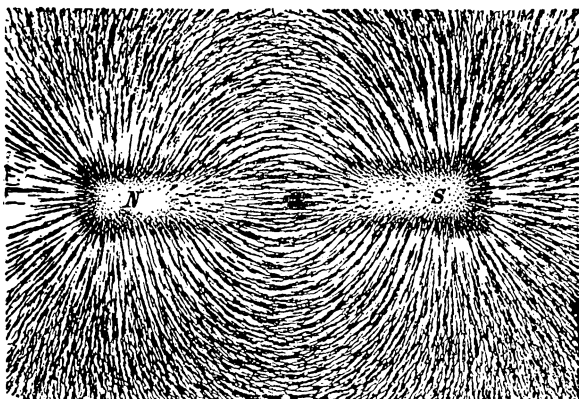
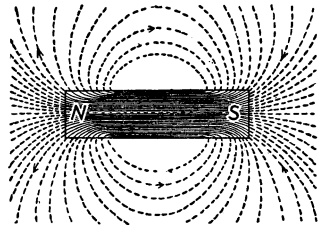
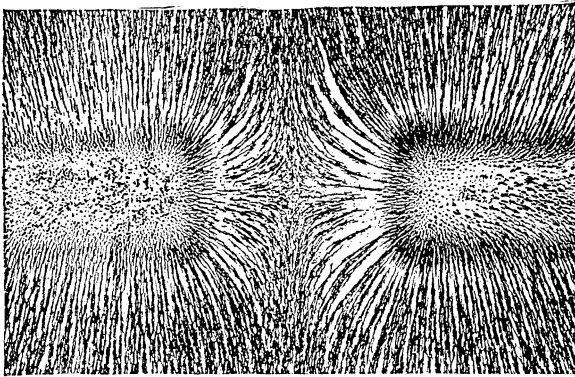

FIG. 179.—Iron filings on paper over a bar magnet.
FIG. 180.—Diagram of the field of a bar magnet.
FIG. 181.—Magnetic field between like poles showing repulsion.
curved lines extending from one end of the magnet to the other. These are called the *magnetic lines of force*. (See Fig. 179.) The space about a magnet in which the magnetic lines are found is called the *magnetic field*. (See Fig. 180.)
(B) Magnetic lines of force are believed to form "*closed curves*" or to be continuous. The part outside of the magnet is a continuation of the part within the magnet. (See Fig. 180.)
physicists to indicate by an arrow head (Fig. 180), the direction that a north-seeking pole tends to move along a line of force. The lines of force are considered as leaving the north-seeking pole of a magnet and entering the south-seeking pole. (See Figs. 181 and 182.)